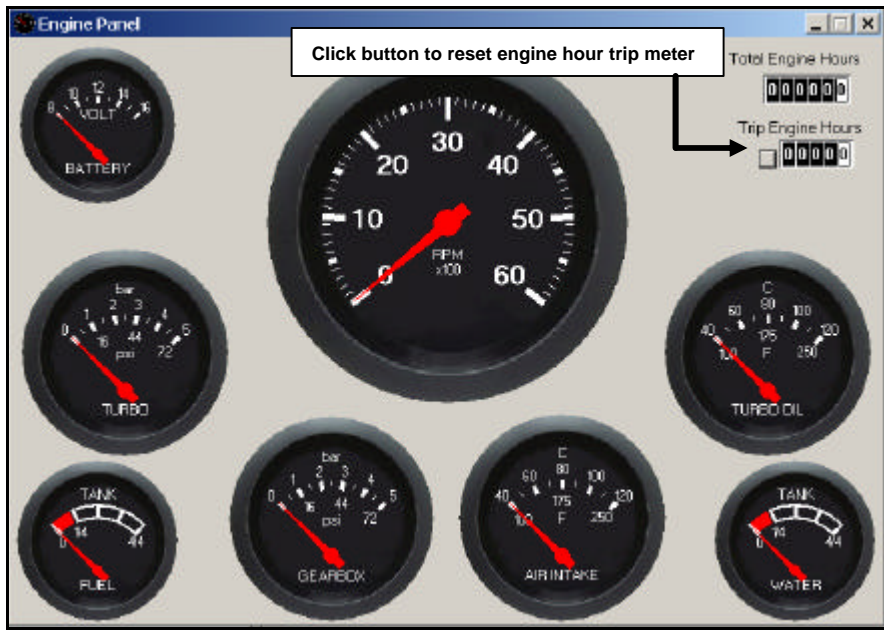

Figure 5-24. Single Engine Instrument Panel with Tachometer
This section explains how to display and configure the engine instrument panel (Figure 5-24). The panel is composed of up to ten gauges, including a tachometer, oil pressure gauge, volt meter, etc. You can select which gauges are displayed and what they show, and you can monitor the operation of up to two onboard engines with two concurrently displayed engine panels. The engine panel can contain some or all of the following components:
3. Select a gauge, then decide whether you want the gauge displayed by clicking **Enabled**. Next, select the setting(s) you want that gauge to display. In Figure 5-24, the tachometer has been enabled, and the range has been set to a 6000 RPM maximum.